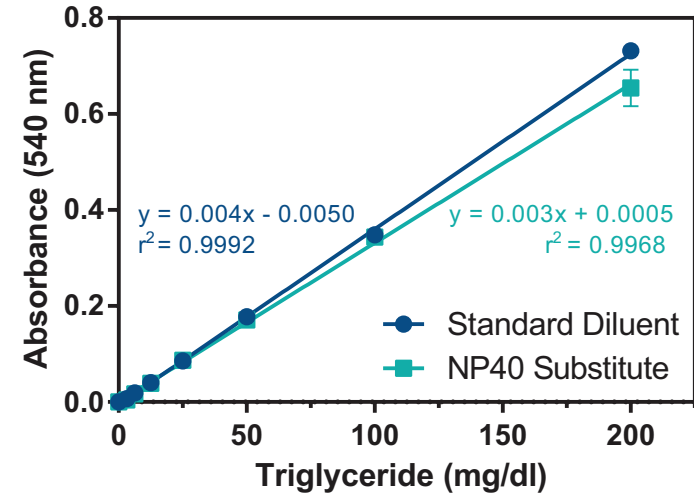

Figure 5. Triglyceride standard curve
3. Graph the corrected absorbance values (from step 2 above) of each standard as a function of the final triglyceride concentration (mg/dl) (see Table 1, page 16). A typical triglyceride standard curve is shown in Figure 5 on page 21.